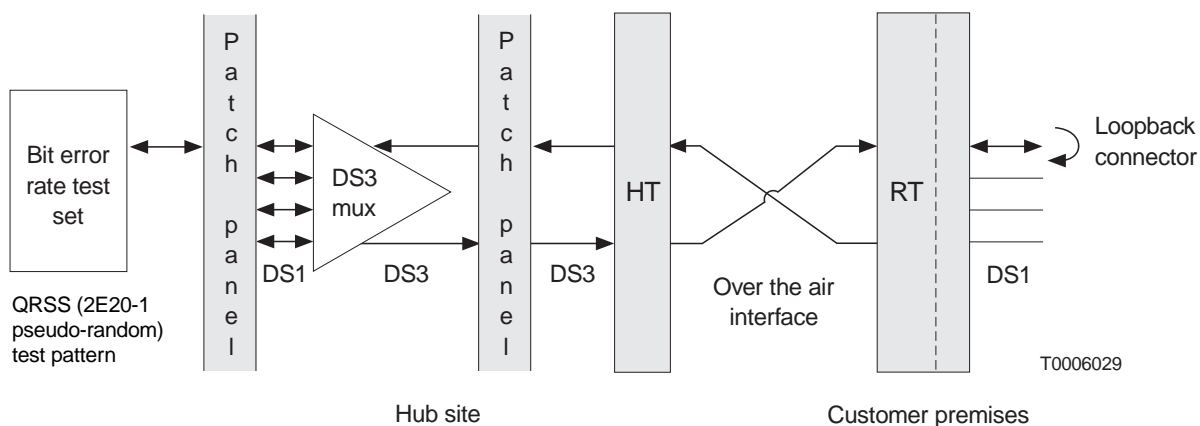

Figure 7-1 HT to RT connection test setup
- A loopback connector must be connected to the input/output port connector of the RT SSI used for the test, as illustrated in figure 7-1.
- A loopback connector must be connected to the input/output port connector of the RT Universal DS1 SSI used for the test. (See figure 7-1.)
- A loopback connector must be connected to the input/output port connector on the RT DS1 SSI used for the test. (See figure 7-1.)